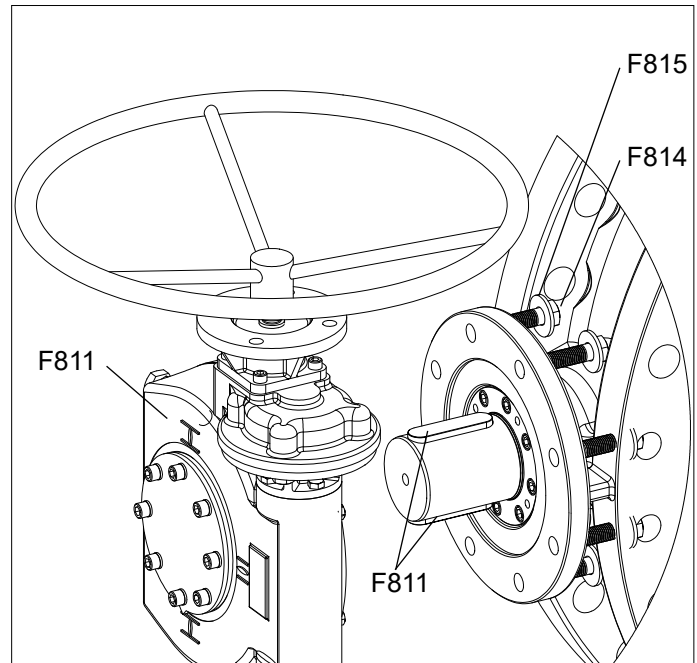

Fig. 2A
3. Remove the Gearbox Bolts (F814) using an open end wrench. Set the Gearbox Bolts (F814), and Gearbox Washers (F815) aside for use during re-assembly. (See Fig. 2A)